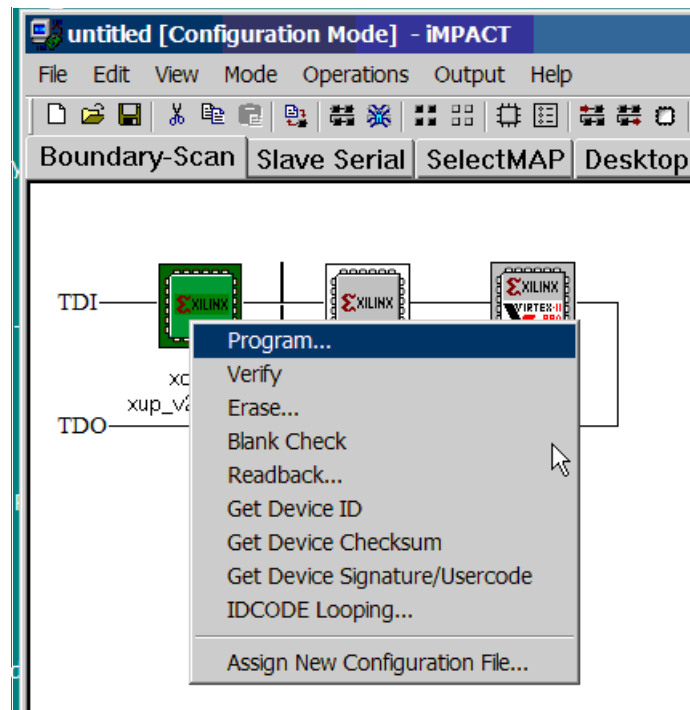

Figure C-7: Selecting the Program Command
10. Right mouse click on the icon for the XCF32P PROM and select Program from the drop down menu as shown in Figure C-7.